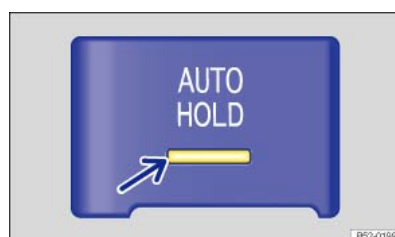

Fig. 152 In the centre console: button for the Auto Hold function.
Old: The Auto Hold function is active when the indicator lamp in the **AUTO HOLD** button ⇒ Fig. 152 (arrow) lights up *yellow* and the indicator lamp (P) in the instrument cluster display lights up *green*.
- Press the **AUTO HOLD** button ⇒ ⚠. The indicator lamp **AUTO HOLD** ⇒ Fig. 152 in the button (arrow) lights up *yellow*. The Auto Hold function is operational, but the vehicle is not necessarily held stationary ⇒ ⚠.
- Press the **AUTOHOLD** button ⇒ ⚠. The indicator lamp in the button **AUTOHOLD** ⇒ Fig. 152 (arrow) switches off.